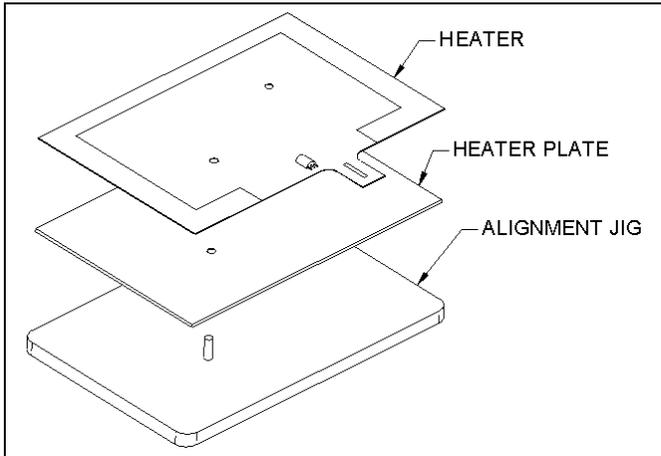

Figure 9-10 Attaching Heater Foil to Heater Plate
- 1 Attach adhesive backed heater foil (Part No. 24000740) to the heater plate (Part No. 22000910) using the alignment jig (IMFIX0001). The heater foil should be attached to the surface opposite the countersunk mounting holes as shown in Figure 9-10.